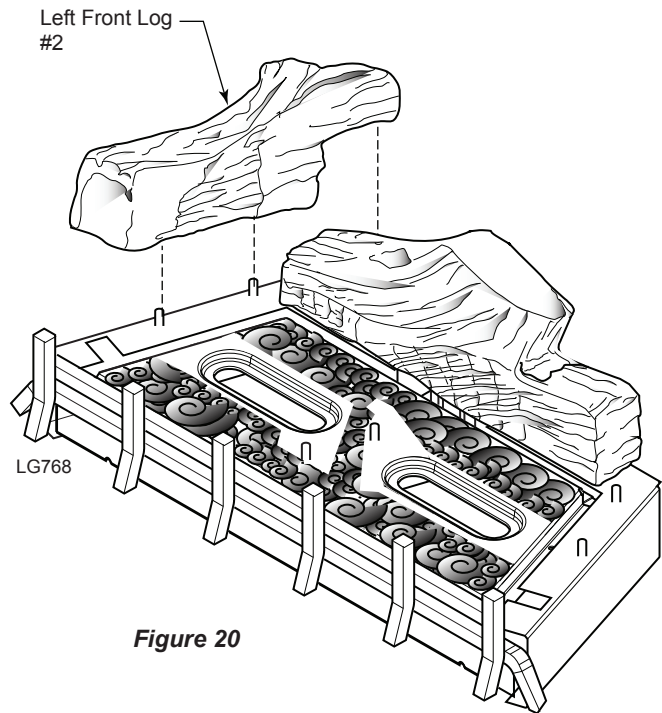

Figure 20
3. Carefully remove the seven (7) logs from wrapping.
4. Place rear log #1 against back of firebox. Figure 20
5. Align holes in the bottom of the left base log #2 with two (2) pins on the left side of insert. Install left base log. *Figure 20*